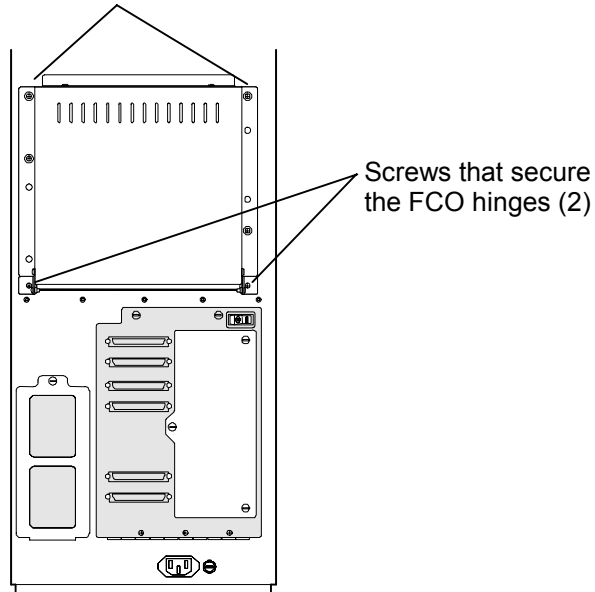

Figure 9-6 Screw Locations in an FCO (Type A Shown)
11. Slowly lift the FCO until it touches the rear of the TLS. Using a Phillips screwdriver, secure the Fibre Channel Option to the rear of the TLS by tightening the two top captive screws. See Figure 9-6.